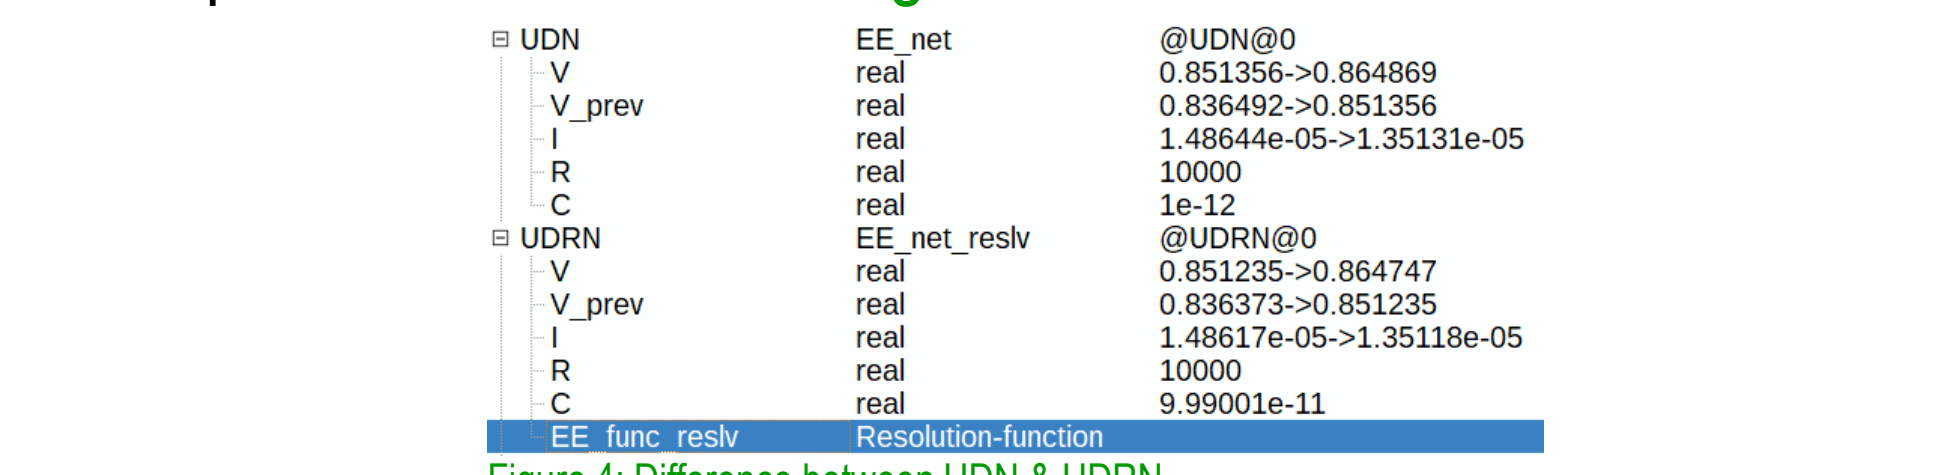

Figure 4: Difference between UDN & UDRN
- Understand the functionality of the resolution function, this is done when the debugging tools can distinguish between UDN and UDRN by declaring the resolution function as a variable of the UDRN as illustrated in Figure 4.